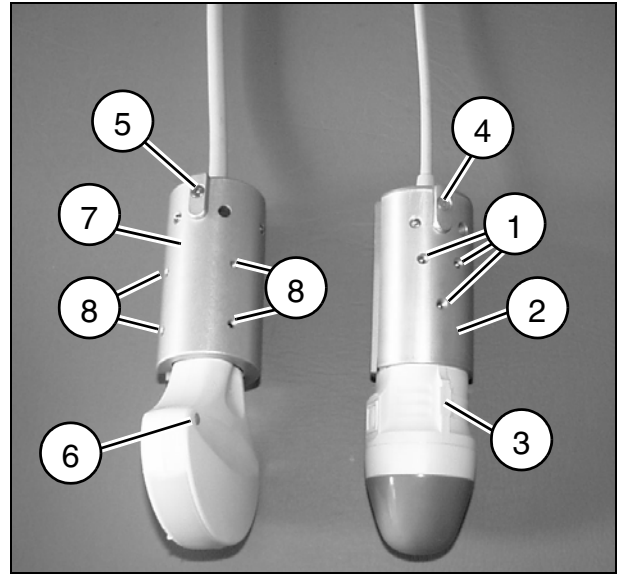

Fig. 40
- Loosen the 6 screws (3 are not visible) (1/ Fig. 40) and remove the sleeve (2/ Fig. 40).
- Attach the sleeve on the new probe. Pay particular attention to the positioning, the marking (3/ Fig. 40) and (4/ Fig. 40) must form a line.
- Loosen the 8 screws (4 are not visible) (8/Fig. 40) and remove the sleeve (7/Fig. 40).
- Attach the sleeve on the new probe. Pay particular attention to the positioning, the narrow side with the orange dot (6/Fig. 40) and (5/Fig. 40) must form a line.